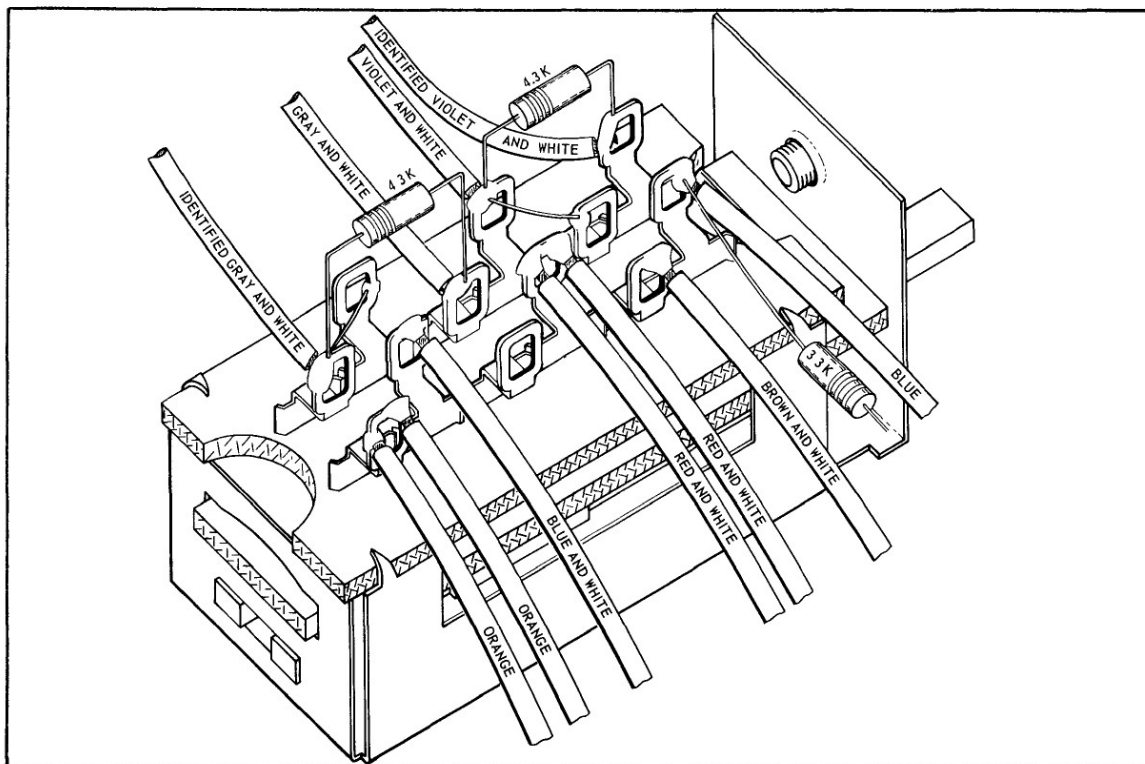

Figure 12-6. Replacement of AltiMatic III Altitude Select Switch
8. Make sure that all the wires on the switch are the same color as those shown in Figure 12-6. If not, identify any wires which are different, remove all wires and components from the Altitude Select Switch.